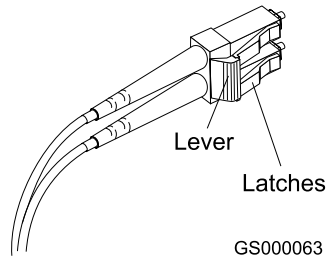

Figure 15. LC-LS Fibre Channel cable lever and latches
1. On the end of the cable that connects into the LC connector end of the LC-SC cable adapter, press down and hold the lever to release the latches. Figure 15 shows the location of the lever and latches.